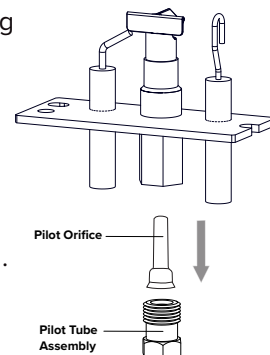

Fig.4
- ☐ 9. Remove the 2 screws securing the pilot in place. Using a backup wrench and a 7/16" wrench remove the pilot tube assembly from the bottom side of the pilot. (Fig 4).